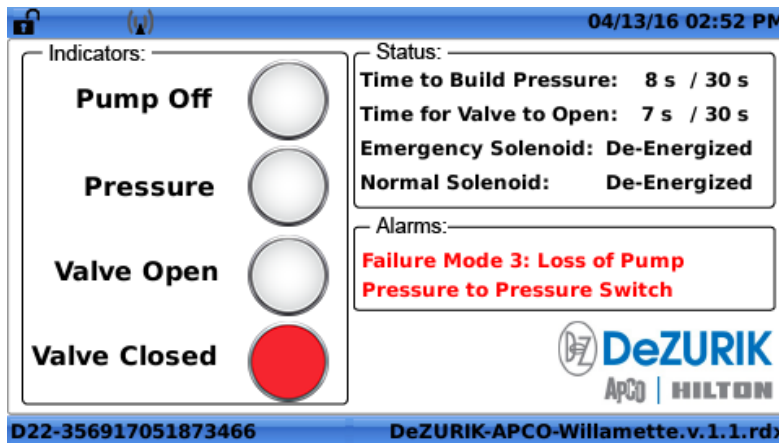

Figure 18A: ECB-CP Controller Home Screen, Failure Mode #3.
5.4A For Solenoid Controlled Valves Model ECB-CP (Figure 18A)